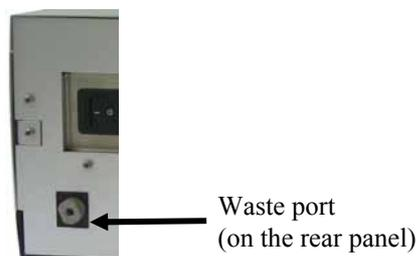

Fig. 15: Waste port
In addition, the flow manager contains a fluid leak sensor to detect liquid leaks from the flow control valve in the enclosure. The fluid leak sensor is installed in the rear of the enclosure (in a tray on the right). When liquid is detected in tray, e.g., due to clogging of the waste outlet (→ Fig. 15, page 27), the sensor is activated. Eliminate the cause for the leakage and dry the sensor as described in section 7.4 (→ page 67).
3. Connect drain tubing to the waste port on the instrument's rear panel (→ Fig. 15) to direct any liquid from the waste path of the flow splitter to an appropriate waste container.